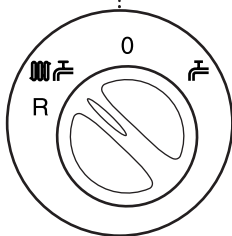

Fig. 14
1. With the selector switch in either Position (i) or Position (ii) (Figs. 14 & 15) the pump will automatically operate for 1 minute in every 24 hours to prevent sticking.